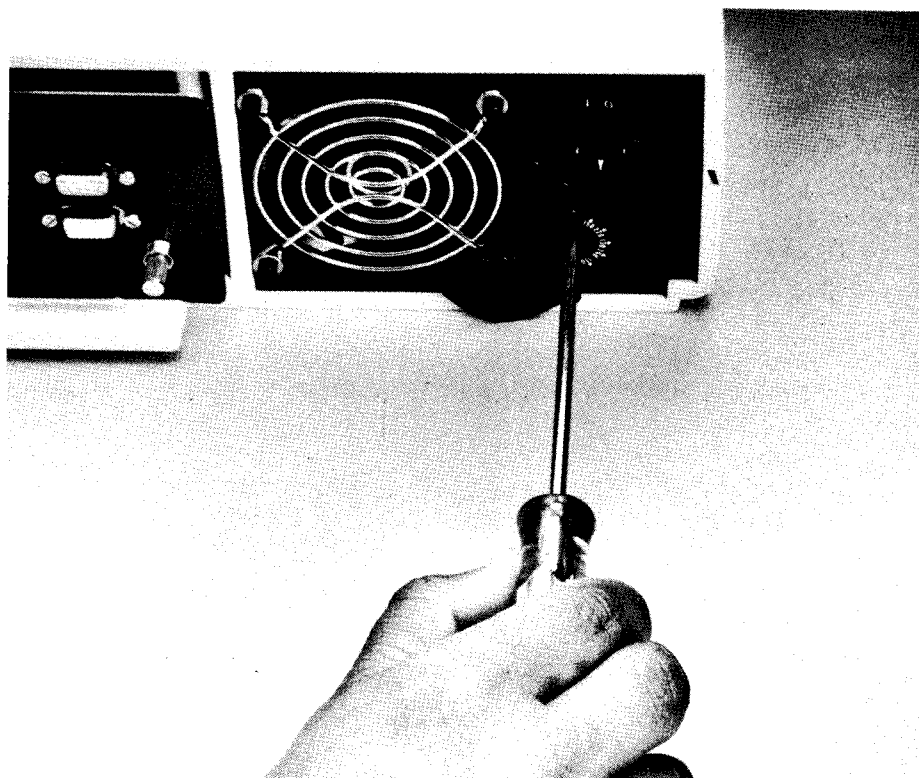

Figure 15. CORCOM Setting
3. If the voltages are incorrect, check the voltage select on the back of the unit. (See Figure 15.) Insert a slotted screwdriver into the selector and turn to the proper line voltage.